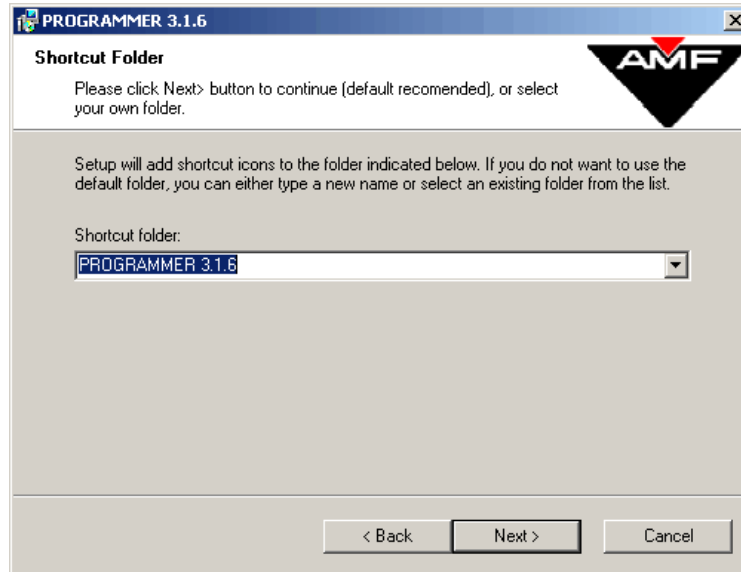

Figure 1-16
15. **Figure 1-16** shows the folder location into which the program will place shortcut icons. The default folder is listed in the textbox and is recommended as the location for the shortcuts. Click on the <Next> button to continue.